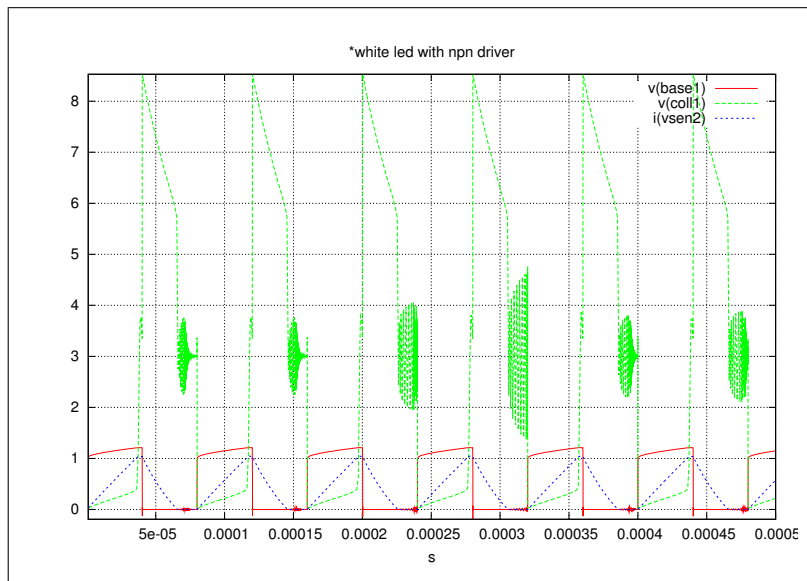

Figure 5: LED Flasher Circuit with Q1 off
- The *flyback* voltage created when Q1 turns off is seen at the collector of Q1 in figure 5.